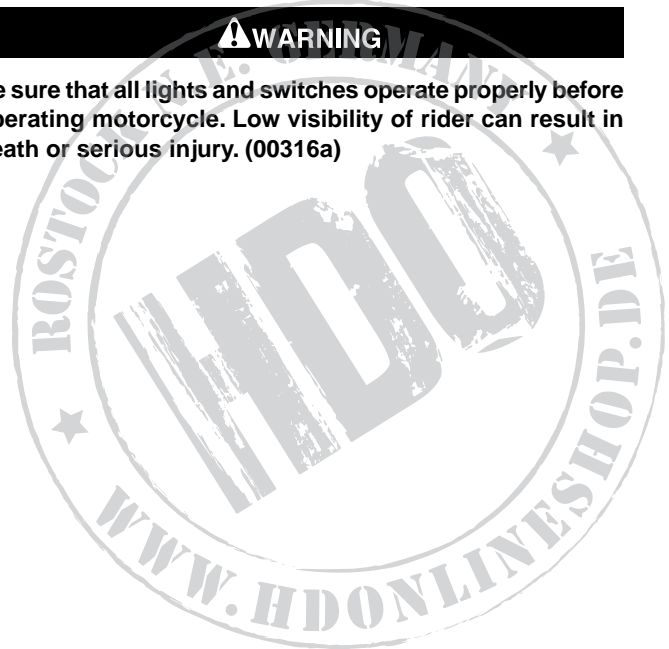

**Figure 5. Antenna Cable and Connector**
- See Figure 5. Connect Tour-Pak light harness connector to unused connector bundled with antenna cable inside of Tour-Pak.